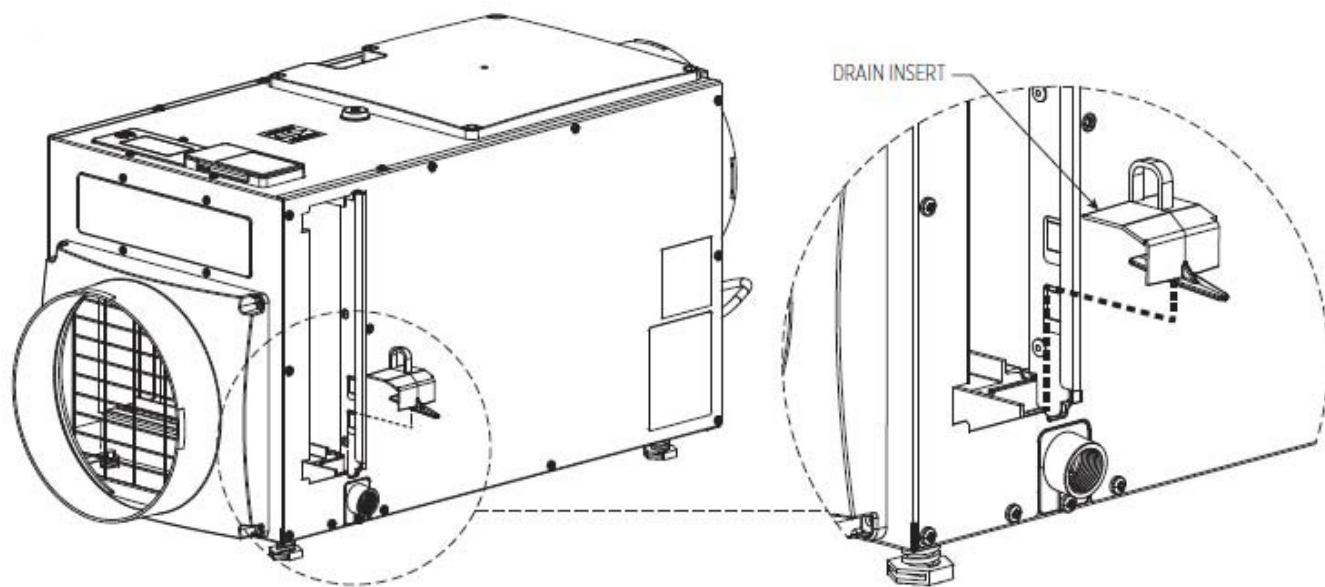

Fig. 10 – Drain Insert
8. If the filter does not slide back in, make sure the drain insert has been properly installed. (**Fig. 10**).